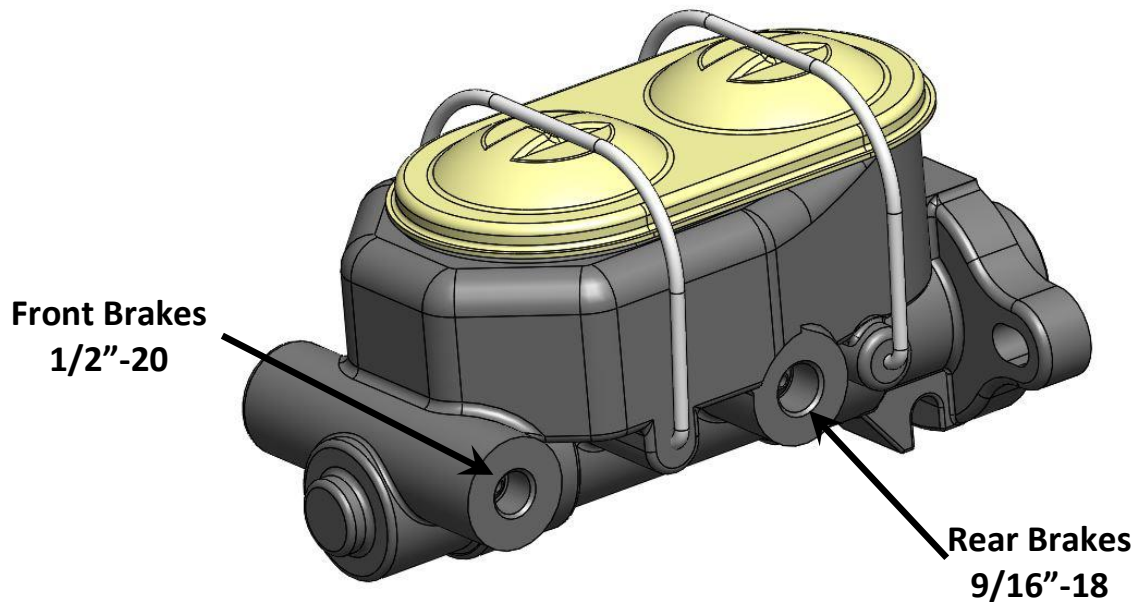

Figure 9 – Brake Line Routing
8. With the entire booster/master combo installed, the master cylinder can be plumbed into the vehicle. Figure 9 below shows proper front and rear hookups for the brake lines.